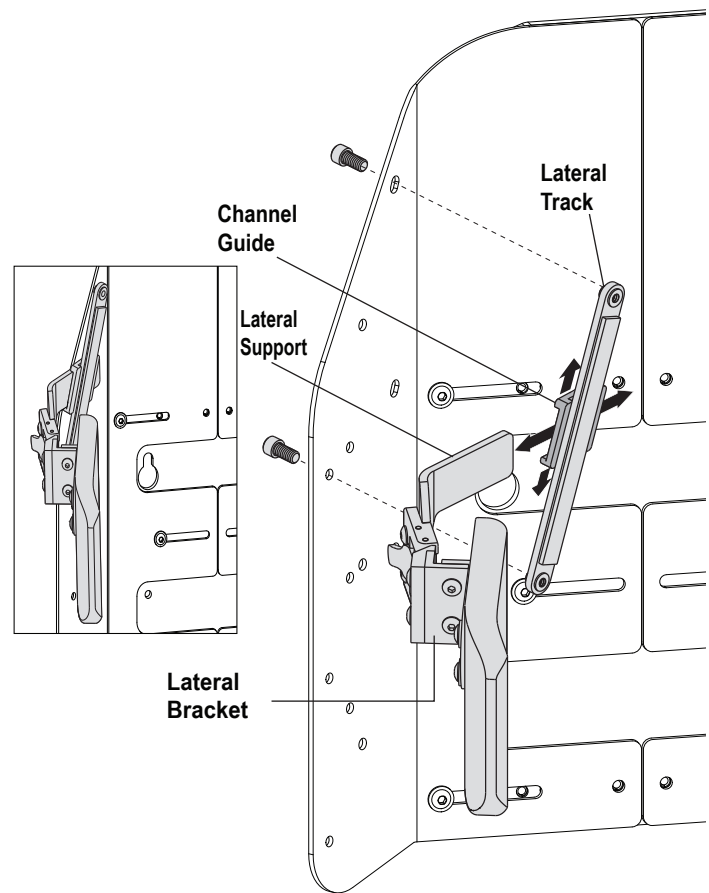

Figure 24. Laterals with HD Seating System
2. Slide the lateral support through the channel guide as shown in **figure 24**.
3. Slide the lateral support to the desired height and width. **See figure 24.**
2. Slide the lateral support to the desired height and width. **See figure 24.**